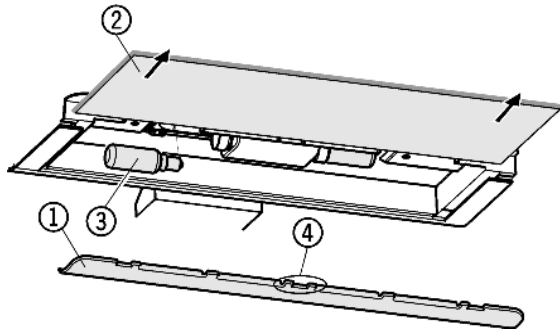

Fig. 14
- ▶ To remove the cover Fig. 14 (1): put your finger behind the cover and disengage it.
- ▶ Pull out the glass shelf Fig. 14 (2).
- ▶ Change the bulb Fig. 14 (3).
- ▶ Attach the cover again, engage it at the right and left and pay attention that the middle hook Fig. 14 (4) grips over the glass shelf.